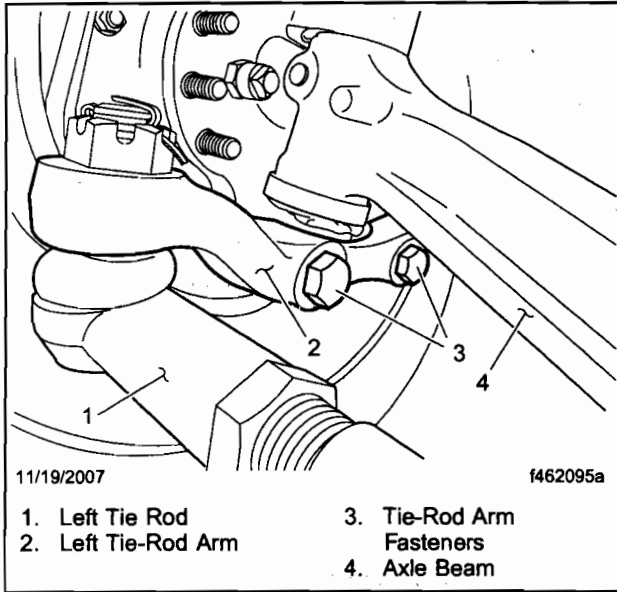
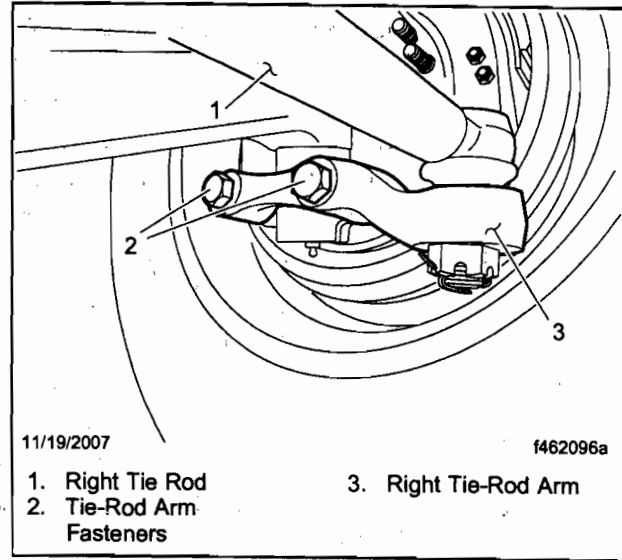

Fig. 4, Left Side of Vehicle
Fig. 5, Right Side of Vehicle
3. Remove and discard the fasteners that hold the tie-rod arms to the steering knuckles. Leave the tie-rod arms attached to the tie rods. See Fig. 4 and Fig. 5